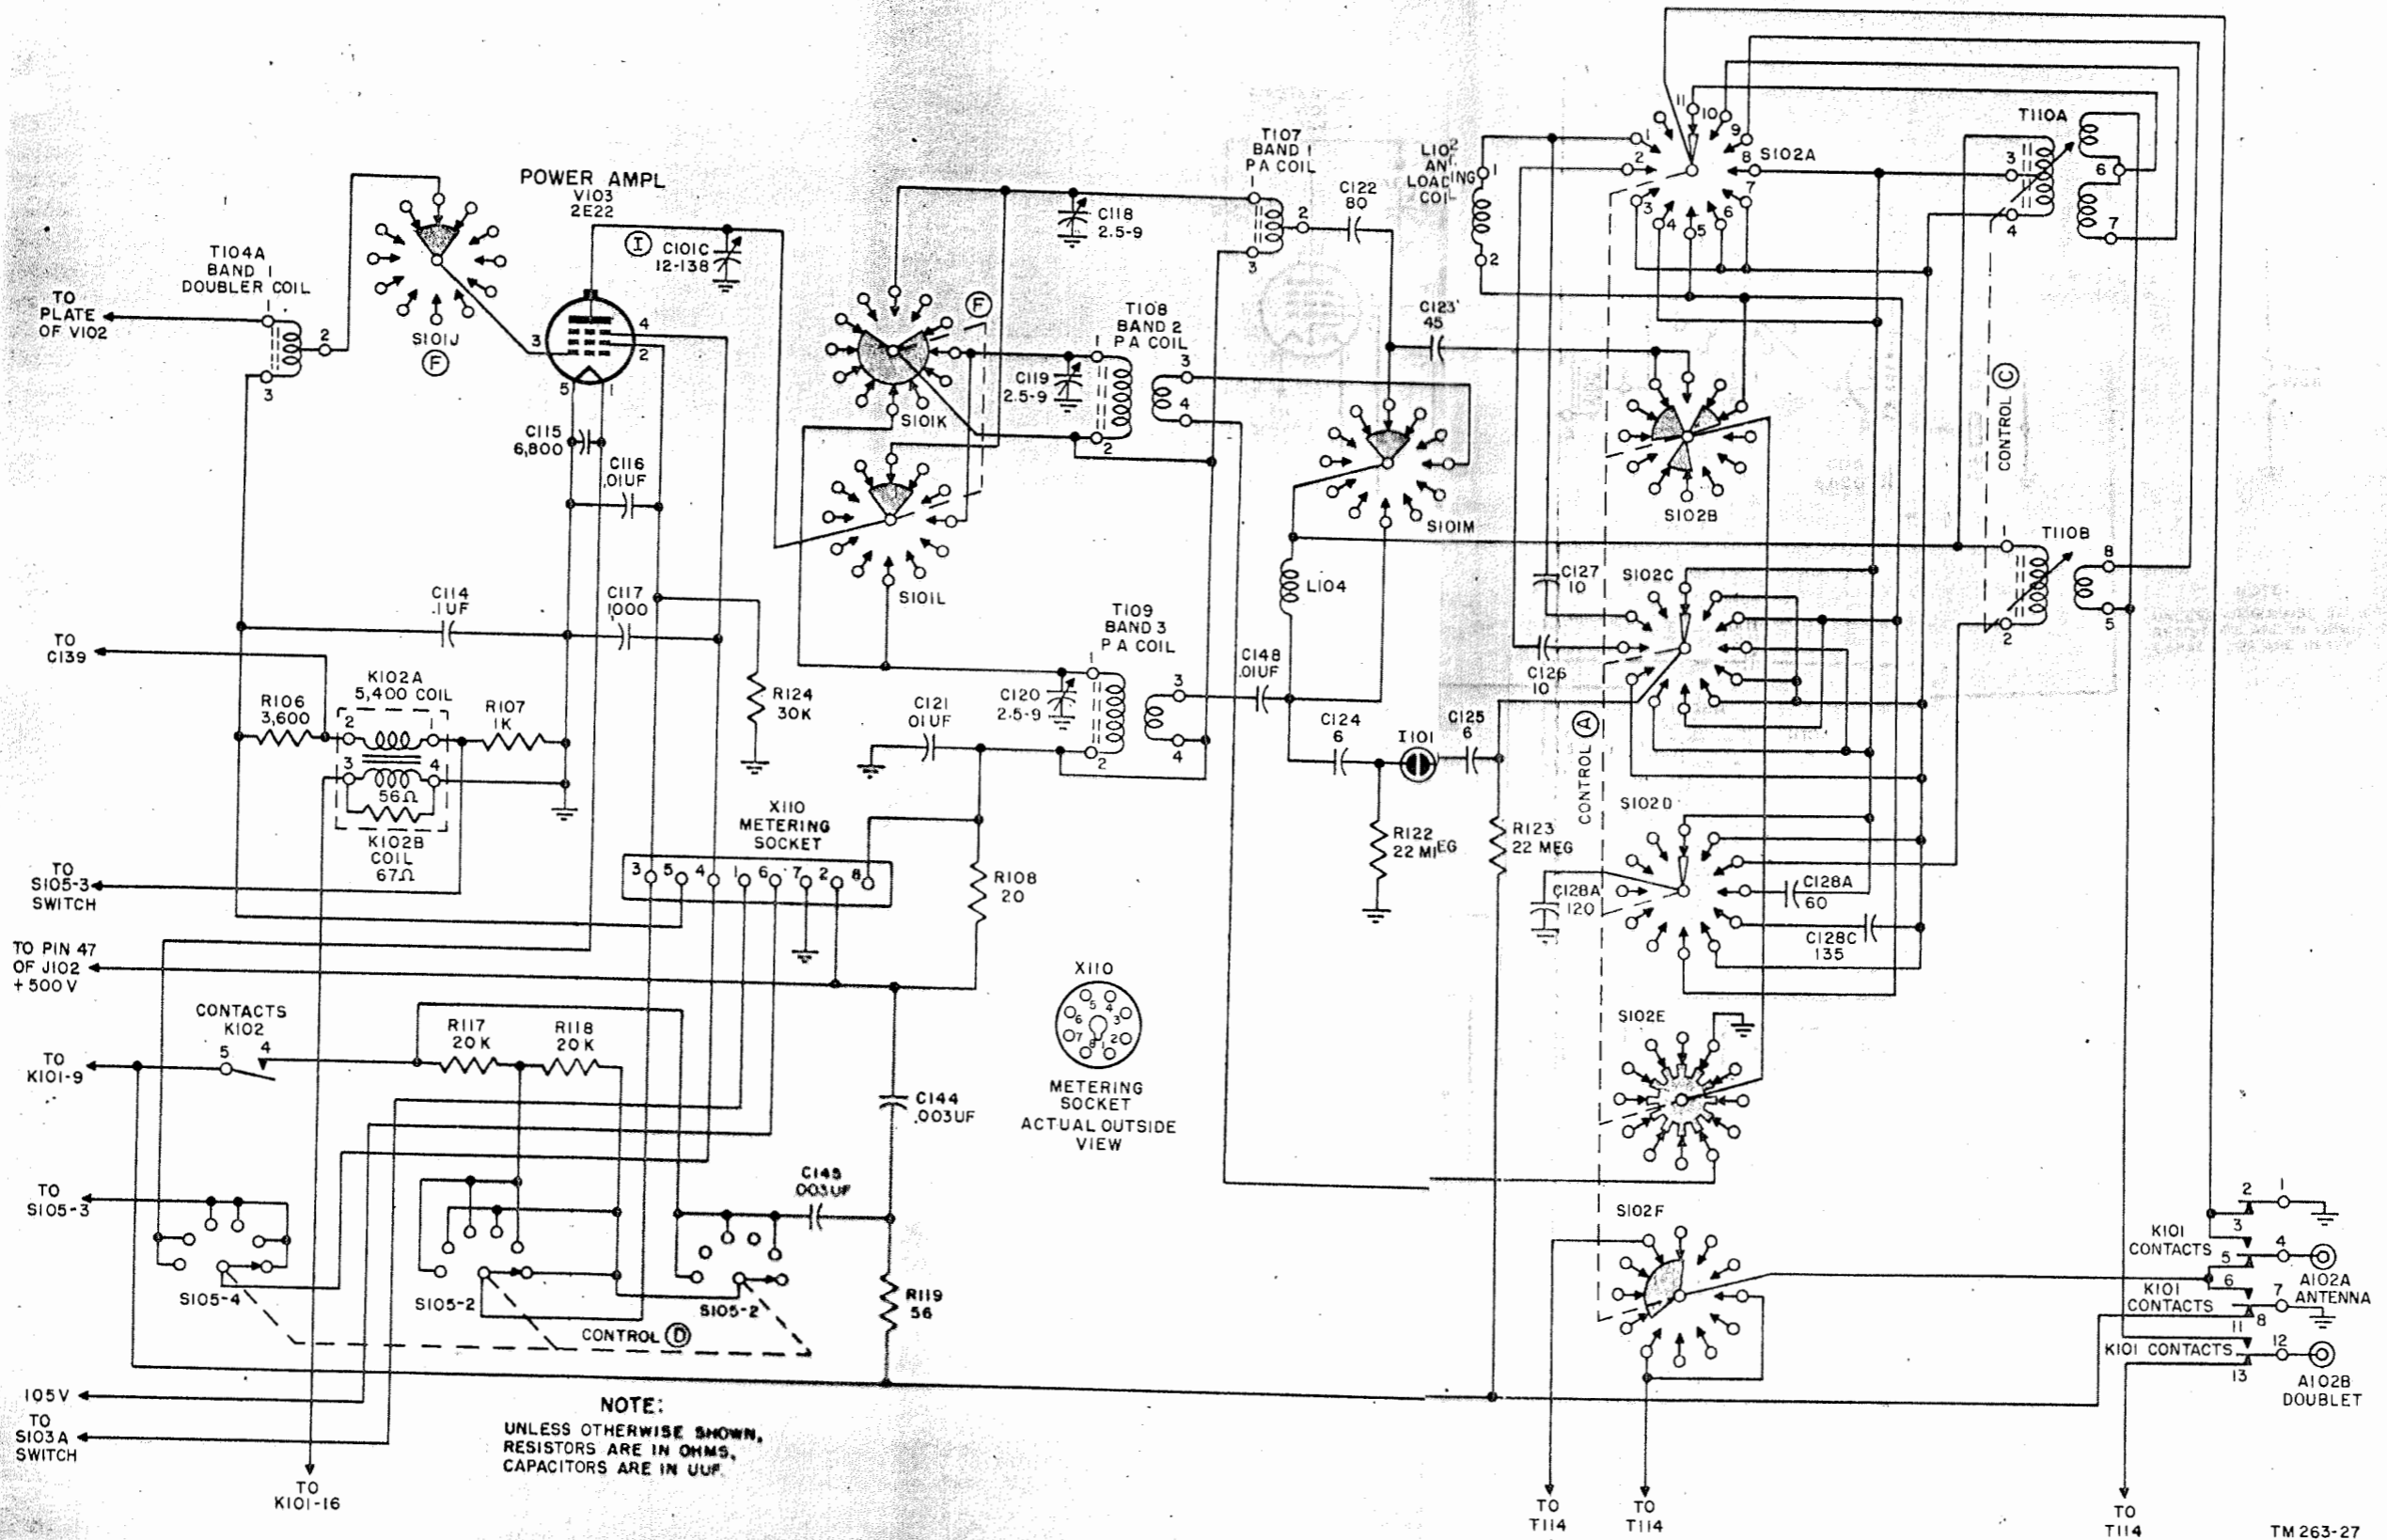

Figure 73. Transmitter power amplifier stage V103, simplified schematic.
95. Power Amplifier Stage V103, Tube Type 2E22 (fig. 73)
b. SIGNAL PATH. The signal enters the amplifier grid, pin 3, directly from the plate load coil of the preceding doubler stage V102, through the switch S101J. After amplification by the tube the signal leaves the plate and enters one of the tuned tank circuits selected by band switch S101L, control ⑤. Since the transmitter is designed to operate with a whip, long-wire, or doublet (with a 72-ohm transmission line) antenna, it is necessary to provide the correct matching circuit for maximum power transfer. Thus S101M, which selects the output from the plate coil in use, leads the signal to switches S102A, B, C, D, and E, control ⑥. This last bank of switches selects the proper matching circuits for the antenna being used. After the signal has
i. PLATE CIRCUIT (fig. 73). The signal from the plate of V103 enters the coil selector switch S101L, control ①. Coil T107, T108, or T109 may be selected, depending on the band of transmission desired. Capacitor C101C is the main tuning capacitor for the coil selected and is ganged to
the other tuning capacitors, control ②, for the preceding stages. Switch S101K shorts out those tuning coils which are not in use. Considering band 1, capacitor C118 is the alinement trimmer. The bottom of each coil is connected to resistor R108 and from there directly to the 500-volt d-c supply (fig. 73). Two leads are connected from across R108 to the metering socket. This is a means whereby the current in the plate circuit can be measured. Capacitor C121 is the bypass for R108, and places the lower end of coils T107, T108, and T109 at ground r-f potential.